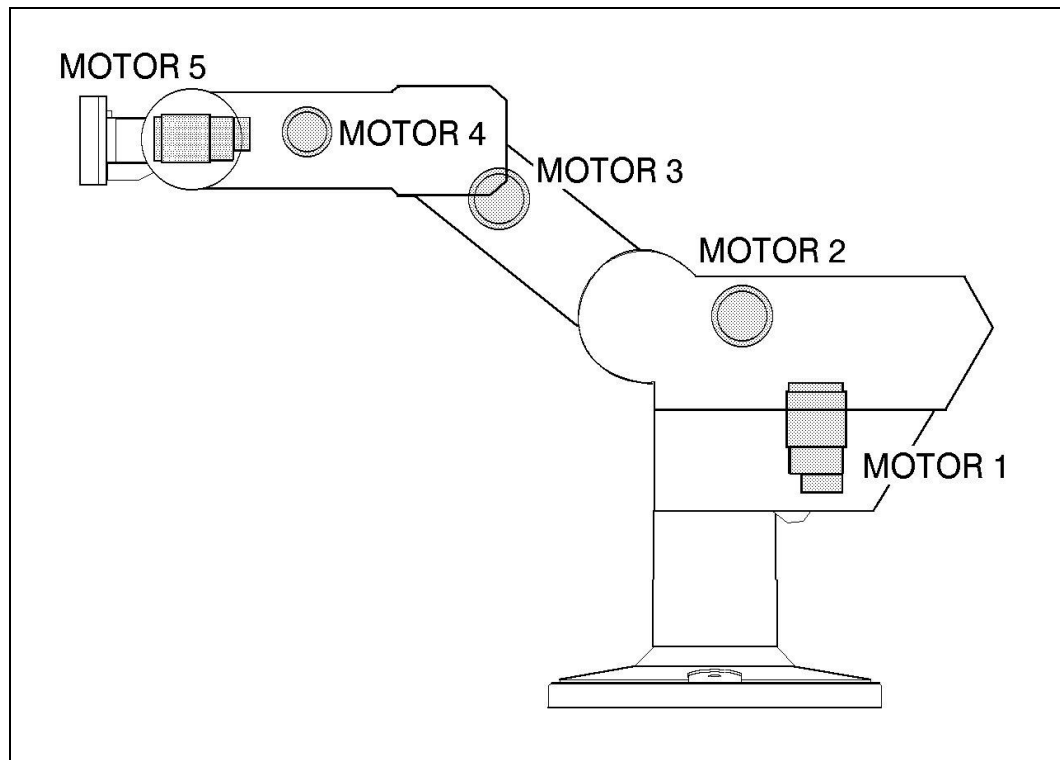

Figure 6-2: Motor Locations in SCORBOT-ER 9Pro
- Since mounting motors on the robot arm adds to the robot's weight and inertia, the robot motors must be light and compact, yet powerful. As shown in Figure 6-2, the motors of the SCORBOT-ER 9Pro are located on the axes they drive, with a two-stage (axes 14) or one-stage (axis 5) transmission.